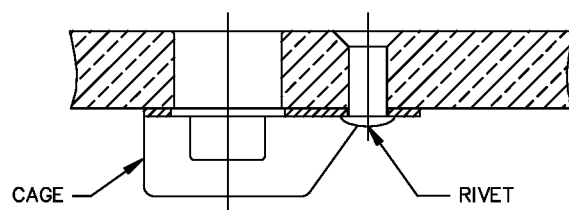

FIGURE 2
2. RIVET CAGE TO SUBSTRUCTURE PANEL AS SHOWN IN FIGURE 2.